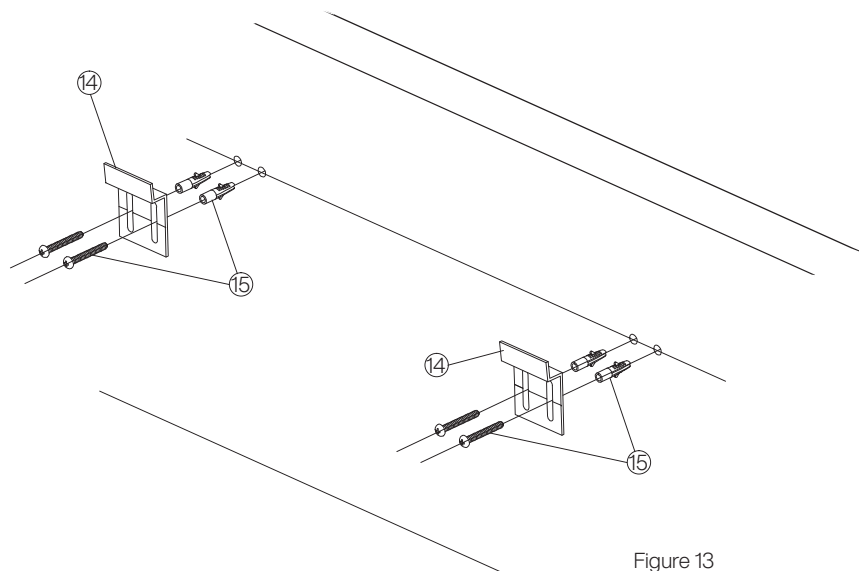

Figure 13
6.2 Drill holes on the marks on the wall with a percussion drill, insert the rubber plug, screw on the screws, and fix the wall bracket (Figure 13)